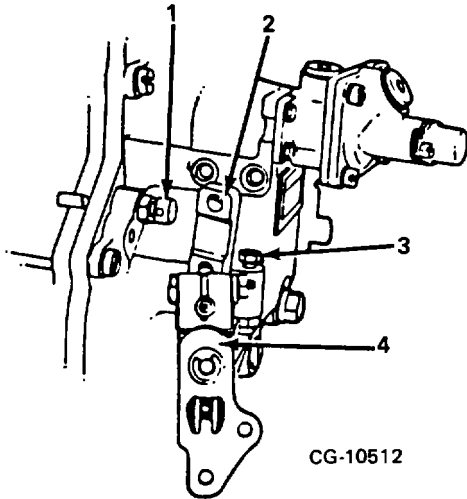

Figure 16. Accelerator Lever Assembly
- b. Install accelerator lever assembly on shaft (Figure 16) and tighten securely.